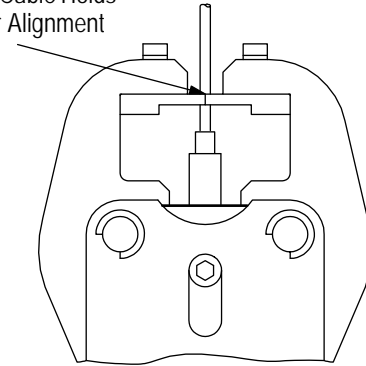

Figure 7
5. TOOL SETUP (Figure 7)
- Loosen the locator locking screw, insert the locator into the tool head cavity, making sure that the locator is bottomed in the cavity, then re-tighten the locking screw. Refer to Figure 7, Detail A.
- Select the proper die set for either RG-402 or RG-405 cable. Position each die on the respective tool jaw and make sure that the chamfer is oriented as shown in Figure 7, Detail A.
- To align the dies, place the cable inside the locator and squeeze the tool handles to close the tool. Check for even alignment of the dies, as shown in Figure 7, Detail B, then tighten the screws to secure the dies.